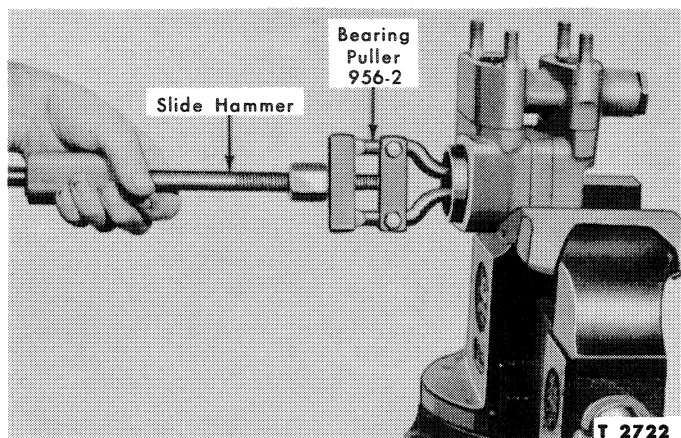

Figure 20—Removing Pump Shaft Oil Seal
11. Remove the oil seal from the pump body using Bearing Puller 956-2 and Slide Hammer 943-S, Figure 20.